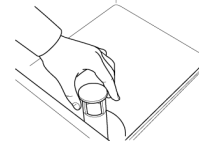

Fig.22
- 1- Open the door and remove the water flow device and close the door. (Fig.22)